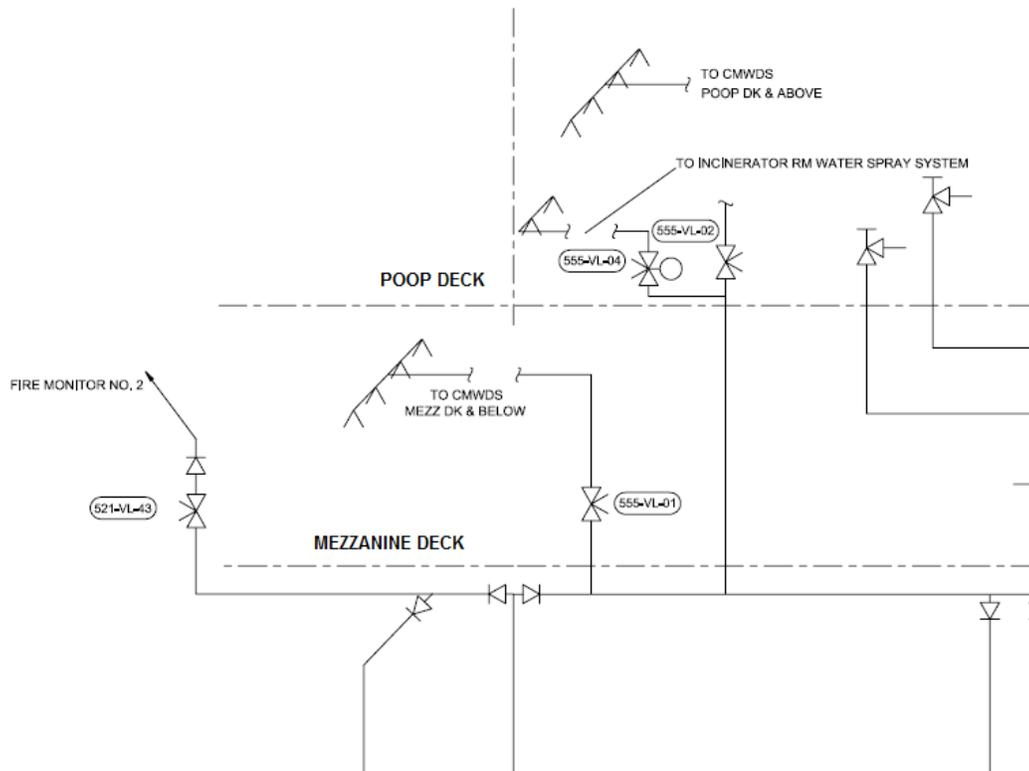

Figure 551-88L-2052_03
(3) On LSV 7 & 8:
- (b) Unlock valve handles and operate valves 555-VL-01 and 555-VL-02 through two opening and closings, (refer to Figure 551-88L-2052_03).